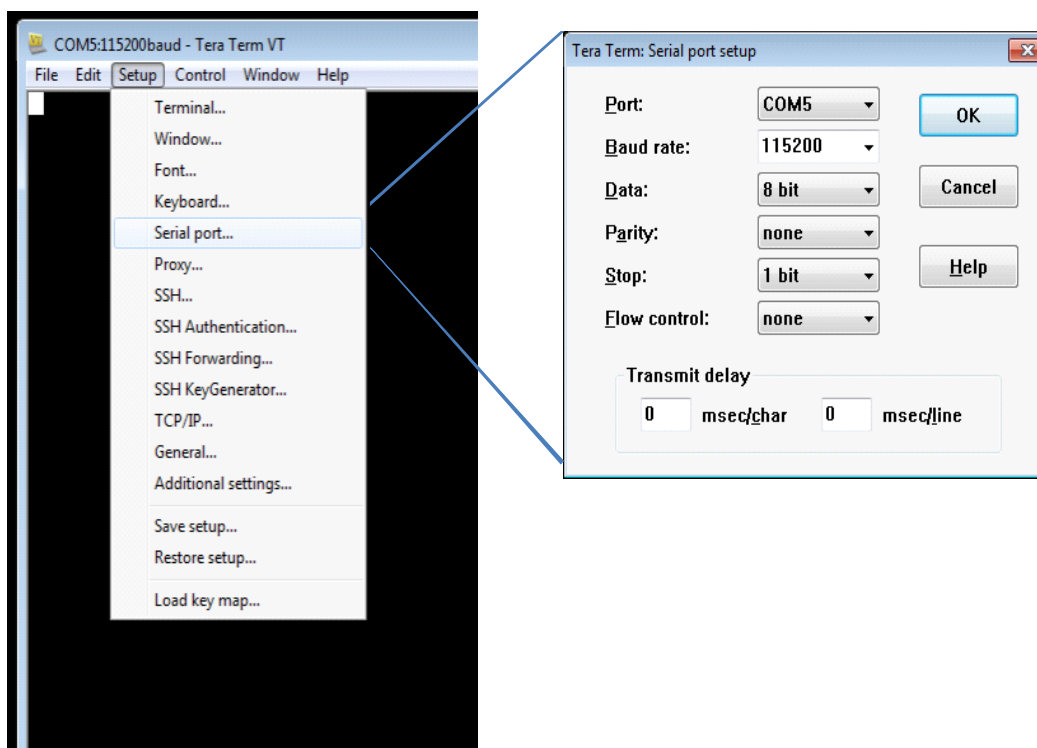

Figure 18. UART COMs settings [Tera Term]
3. In the Tera Term: Serial Port setup window that appears, enter the COMs settings shown in Figure 18 below.